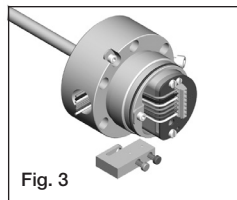

Fig. 3
- Step 2: Slide programming tool into place as shown. (Fig. 3)